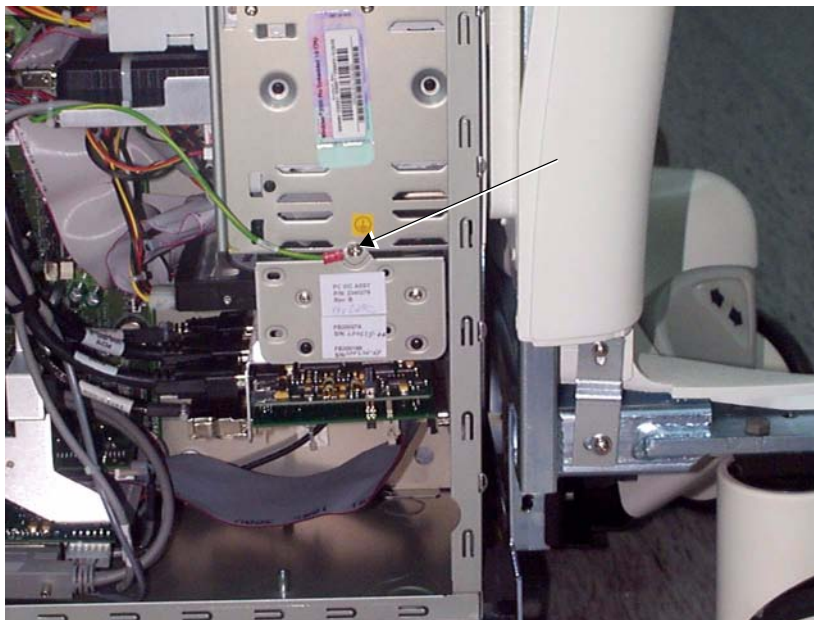

Figure 8-56 PC-VIC
- 3.) Remove the screw that holds the Ground cable and PC-VIC in position (as shown in Figure 8-56 below).
- 5) Return and tighten the screw that holds the PC-VIC in position (as shown in Figure 8-56 on page 8-73).